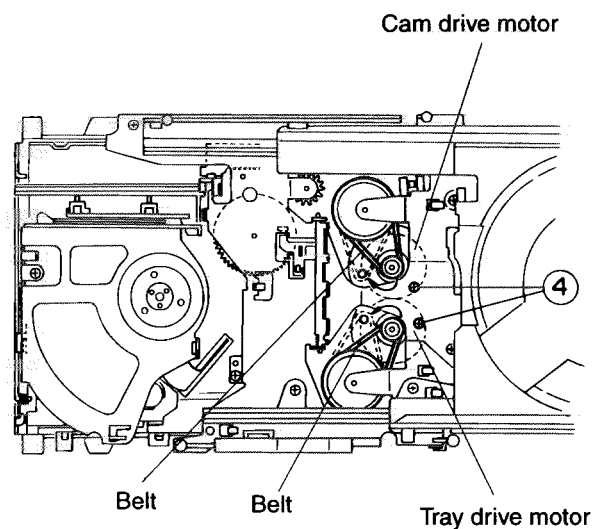

Fig. 17
3. Hang the two belts hanged on the tray & cam drive motor again to the motor as shown in Fig. 17.